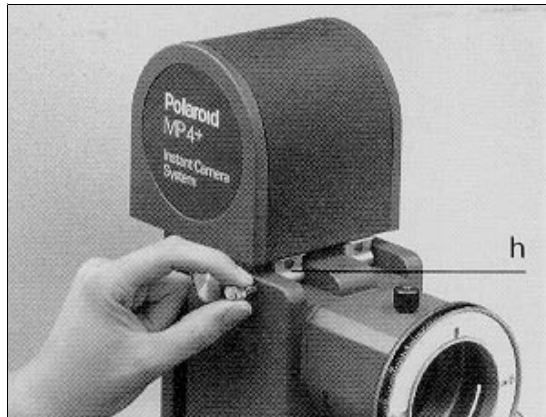

Figure 2-12. Inserting Pin through Spring Loop
d. Reinsert the pin, making sure that it goes through the loop (h, figure 2-12) in the spring end. Tighten the pin.